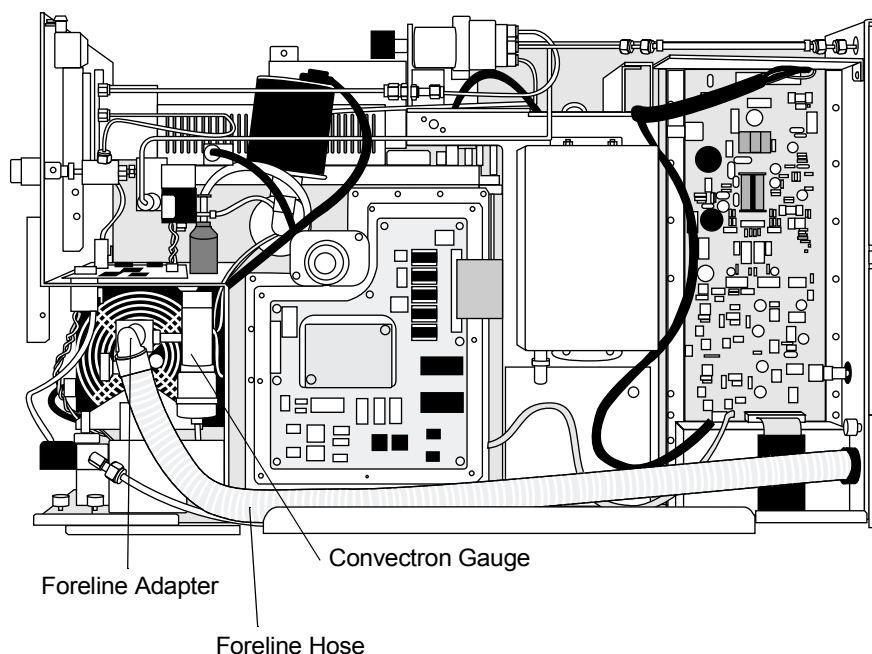

Figure 7-24. Right Side of the GCQ Plus Showing the Foreline Adapter, Foreline Hose, and Convectron Gauge
4. Loosen the clamping ring that holds the foreline vacuum hose to the foreline adapter. Disconnect the foreline vacuum hose from the foreline adapter. Figure 7-24 shows the location of the foreline vacuum hose.